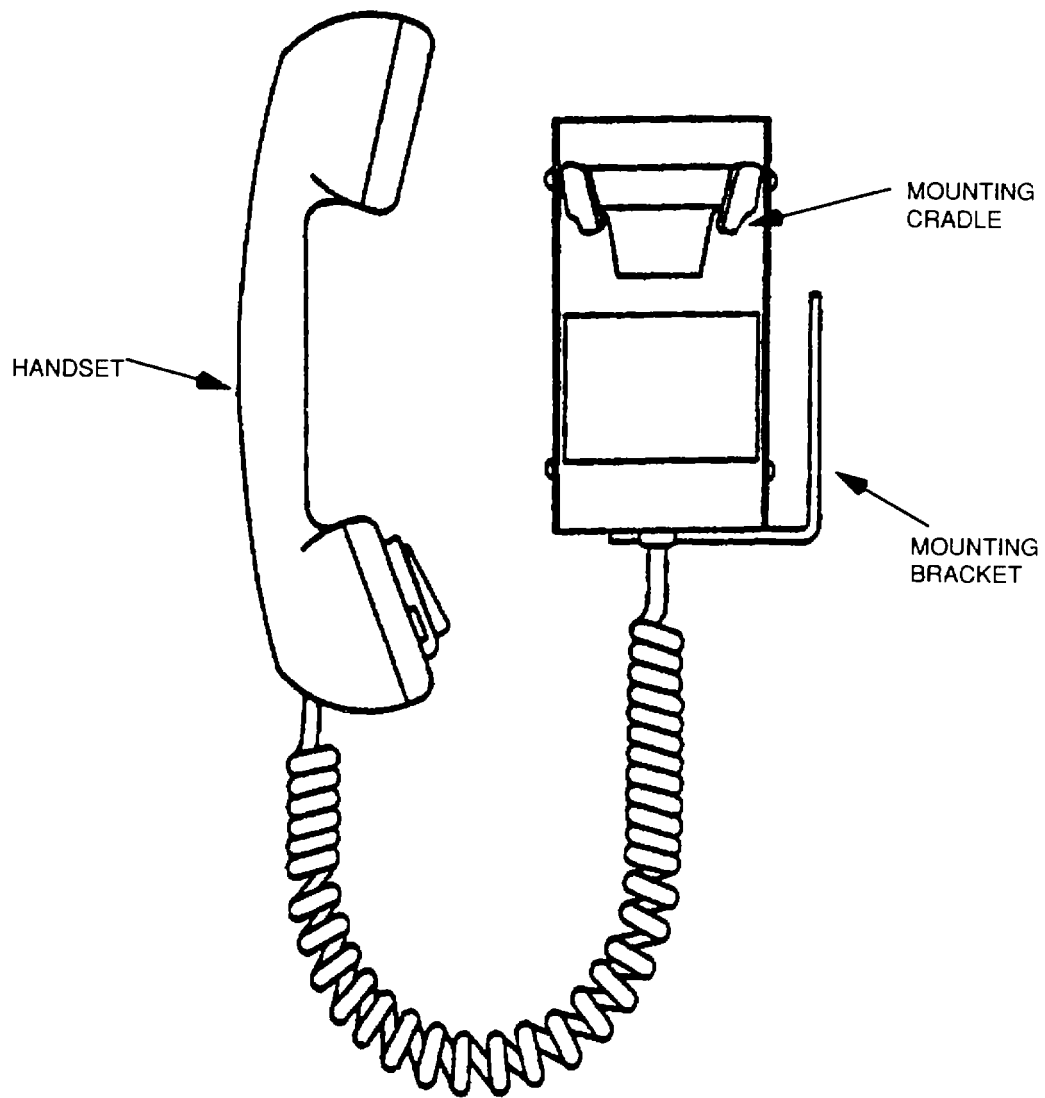

Figure 4-3. System Operator Telephone Handset Station
- Operator removes telephone handset (Figure 4-3) from hook (hang-up switch) on side of radio operator's desk and checks that corresponding station is online. Then, operator speaks into handset microphone.